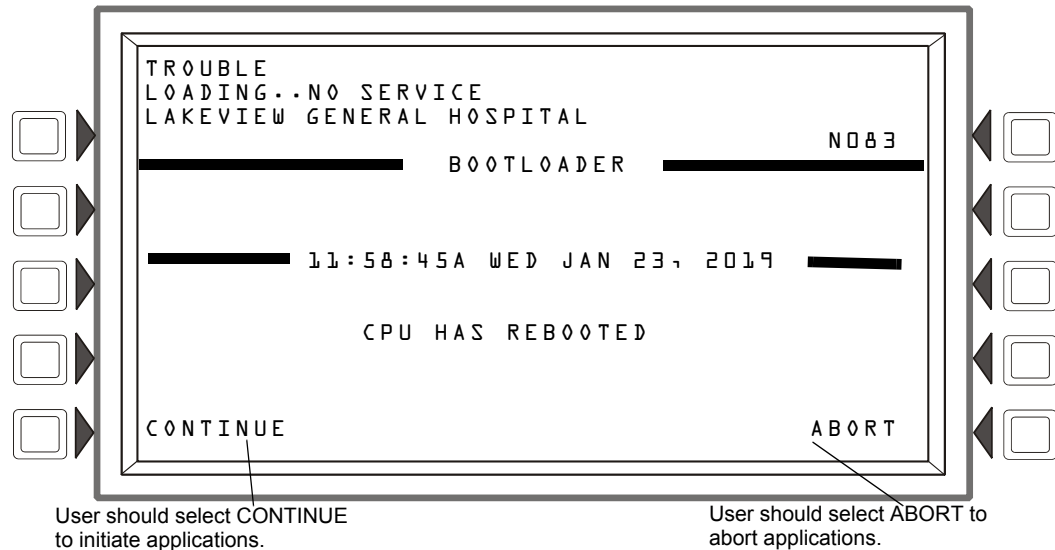

Figure E.2 Singapore Application Initiation
- Requires the user to initiate the start of the application when the panel boots/reboots. The CPU Failure LED will be ON until the user initiates startup. (Refer to Figure E.2.)